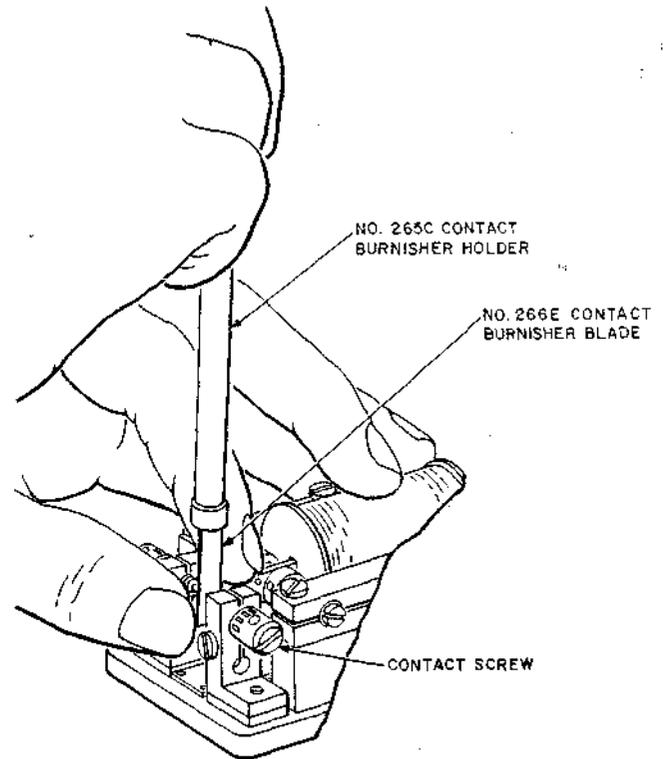

Fig. 20—Method of Cleaning Contacts on 209-Type Relays Equipped with Duckbill-Type Contact Springs
4.21 *209-Type Relays Equipped with the Duckbill-Type of Flexible Contact Springs Illustrated by Fig. 19:* Insert the 266E blade in the 265C contact burnisher holder with the wide end outward. Insert the contact burnisher blade approximately vertically between the armature and the stationary contact as shown in Fig. 20. If necessary, back off the contact screws equally to
permit the burnisher blade to enter between the armature and the contact. Hold the end of the flexible contact springs with the thumb and forefinger as shown in Fig. 20, to resist the movement of the armature in a vertical plane, and burnish the contacts by rubbing up and down while holding the armature lightly against the burnisher. Take care that the contacts are burnished so their surfaces remain parallel to the armature. Do not attempt to reproduce a rounded surface on the stationary contact. If the position of the contact screws was disturbed, readjust the screws as covered in the section covering requirements and adjusting procedures for the apparatus.